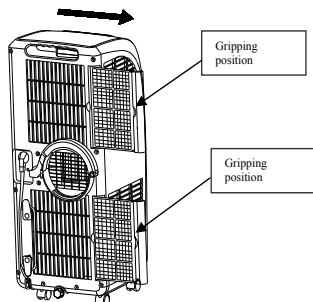

Figure 13
1). Grip the gripping position of the evaporator filter frame and the condenser filter frame and take out the filter frame gently in the direction shown by the arrow (as shown in Figure 13).